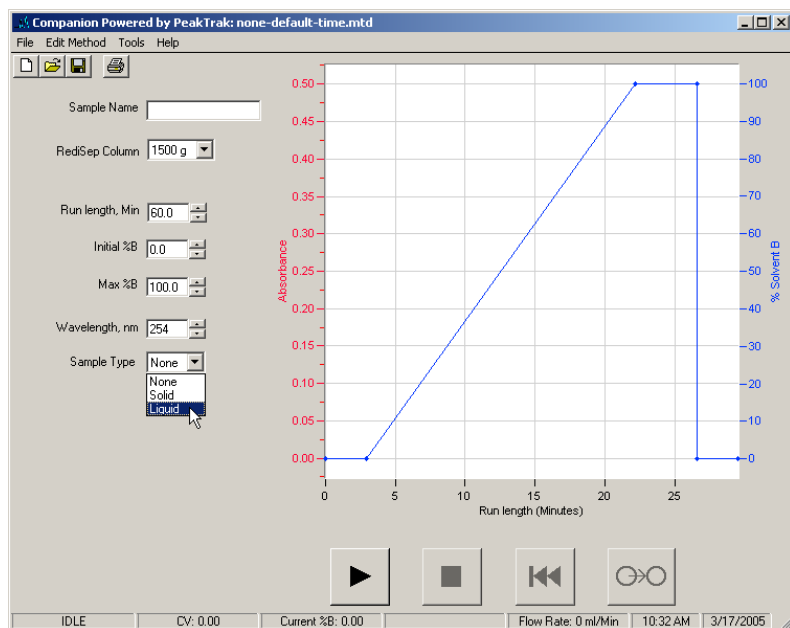

Figure 8-5 Sample Type set for Liquid on PeakTrak's Main window
1. Select “Liquid” as the Sample type from PeakTrak’s Main window (Figure 8-5).